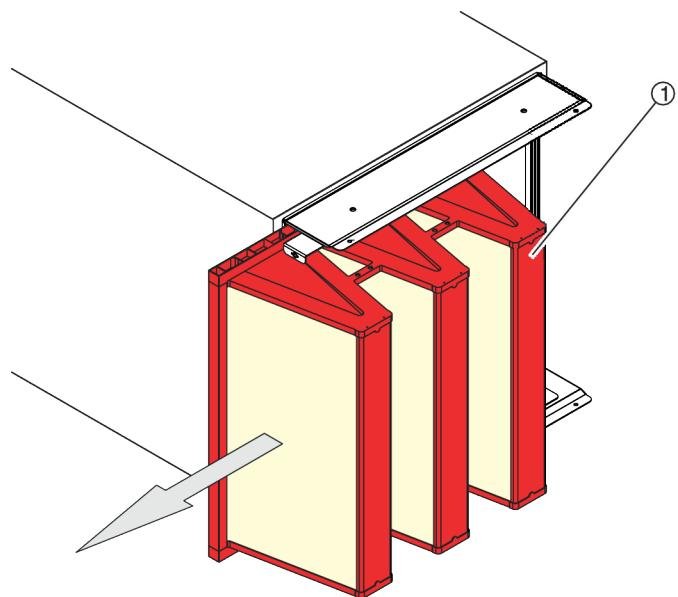

Fig. 25: Pulling out the filter element
5. ▶ Pull out the filter element (Fig. 25/1) sideways.